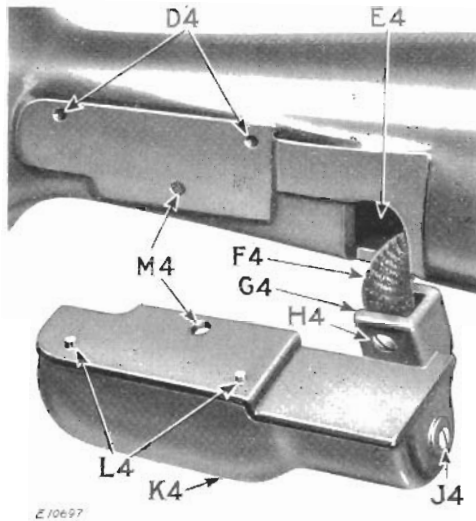
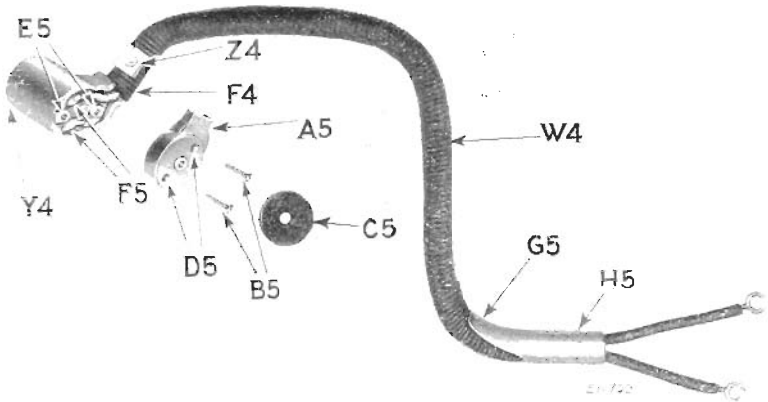
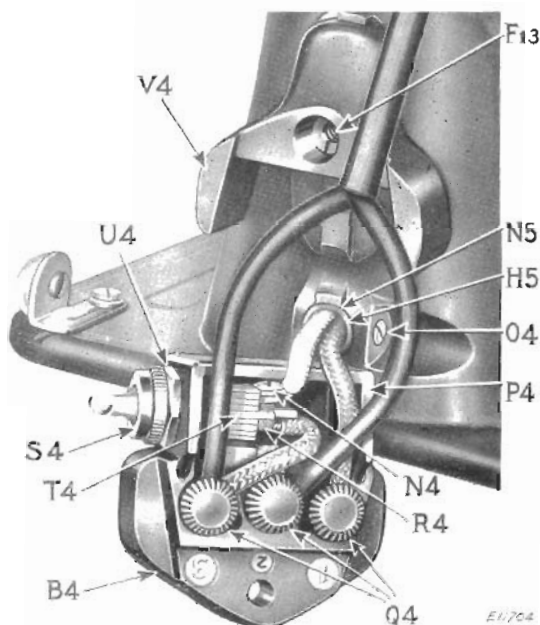
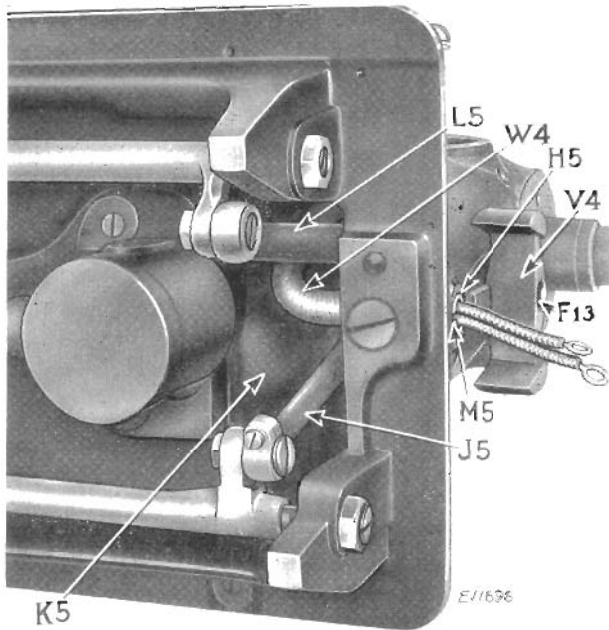

FIG. 8. SINGERLIGHT REMOVED FROM MACHINE 201-2
FIG. 9. SINGERLIGHT DISASSEMBLED—LEADS
FIG. 10. THREE-PIN TERMINAL DISPLACED FROM MACHINE ARM
FIG. 12. SHOWING POSITION OF THE SINGERLIGHT LEADS
machine arm. While the the removal of the three-pin terminal bracket (V4) is not essential, it is recommended when inspecting the connections at the three-pin terminal. This bracket is removed by taking out the screw at (F13, Fig. 10).
Inspect the connections at the three thumb nuts (Q4, Fig. 10). See that they are screwed
down firmly to insure tight connections. Each of the three pins is provided with a washer. See that this washer is, in each case, placed above the wire or wires before tightening the thumb nuts (Q4, Fig. 10).
leads from the machine arm. It is necessary, however, to remove the complete Singerlight from the machine as shown in Fig. 8, by removing the screw at (M4, Fig. 8), after which the Singerlight can be disassembled as follows:
**Remove Singerlight Shade—Machine 201-2.** With the Singerlight removed as shown in Fig. 8, remove the screw (J4) which fastens the Singerlight socket (Y4, Fig. 9) in the base of the Singerlight shade (K4), and loosen the screw (H4) which retains the leads tube at its upper end (F4) in the entrance (G4) of the Singerlight shade. The Singerlight shade (K4) is then easily slipped from the upper end of the leads tube and the lamp socket by withdrawing the shade to the right.
**Inspect Singerlight Connections—Machine 201-2.** With the Singerlight shade removed as instructed on the preceding page, take out the two screws (B5, Fig. 9) which fasten the Singerlight socket cap (A5) to the socket body. Carefully inspect the two soldered connections (F5) to make sure that they are tight.
cap and into the holes (E5) in the lamp socket body. Put the felt washer (C5) on the cap (A5) and put the assembled lamp socket in place in the Singerlight shade base with the upper end (F4) of the leads tube in the entrance (G4, Fig. 8) of the shade, and with the fibre clamping plate (Z4) in place against the upper end (F4) of the leads tube where the set screw (H4, Fig. 8) will be tightened against it. Insert and tighten the screw (J4, Fig. 8), thus fastening the lamp socket (Y4) into the base of the shade (K4, Fig. 8) and carefully tighten the set screw (H4, Fig. 8) against the fibre clamping plate (Z4).
**Replace Singerlight—Machine 201-2.** Attach the completely assembled Singerlight to the machine arm, having the two pins (L4, Fig. 8) in the holes (D4, Fig. 8). Tighten the screw at (M4, Fig. 8).
Disconnect the yellow Singerlight lead from Pin No. 1 of the three-pin terminal, and disconnect, at Pin No. 3, the red lead which is soldered to the Singerlight switch (T4, Fig. 10).
Loosen set screw (O4, Fig. 10) to release the clamp (H5, Figs. 9 and 10) which holds the three-pin terminal end of the leads tube (W4, Fig. 11) containing the Singerlight leads.
The position of the tube (W4) can be observed conveniently through the opening (X4) uncovered by the removal of the stitch indicator plate. This plate is removed by taking out the two screws by which it is fastened to the machine arm. The lower end of the tube (W4) can be observed through the opening (K5, Fig. 12) in the bed of the machine.
Withdraw the tube (W4) from the machine arm through the opening (E4, Fig. 8), together with the clamp (H5, Figs. 9 and 10), or remove the clamp (H5) separately from the tube through the opening (K5, Fig. 12) in the machine bed.
With the Singerlight completely disassembled, as shown in Fig. 9, insert the tube (W4, Figs. 9 and 12) with the clamp (H5, Figs. 9 and 12) in place thereon, into the Singerlight seat opening
(E4, Fig. 8) in the machine arm, and move the tube (W4) containing the Singerlight leads back toward the balance wheel, at the same time keeping the tube (W4) at the front side (toward the operator) of the horizontal arm shaft in the machine arm; then, reaching through the opening (X4, Fig. 11), guide the tube (W4) downward while keeping this tube at the front side (toward the operator) of the upright arm shaft as shown in Fig. 11. While guiding the tube (W4) downward toward the leads opening at the three-pin terminal seat, keep this tube to the left of the feed connecting rod (L5, Fig. 12). From this point downward, the tube (W4) is guided by reaching through the opening (K5) in the machine bed. Guide the tube (W4) downward and to the
left of the connecting rod (L5) and then to the right and between the connecting rod (L5) and the feed forked connection (J5, Fig. 12); then insert the clamp (H5, Figs. 9 and 12) in its opening (N5, Fig. 10) just below the three-pin terminal bracket (V4, Fig. 12) and with its outer end about flush with the outside surface of the machine arm, and with the split (M5, Fig. 12) down to bring the curved side (G5, Fig. 9) up toward the top of the machine so that the curve (G5) will conform to the upward bend of the tube (W4, Figs. 9 and 12). Also make sure that the tube (W4) is positioned so that it will not obstruct any of the moving parts such as the connecting rod (L5, Fig. 12) and the feed forked connection (J5, Fig. 12), etc.
When the leads tube (W4) is correctly positioned in the machine arm, and the clamp (H5) is properly inserted in its opening, as shown in Fig. 12, securely tighten the clampset screw (O4, Fig. 10).
Attach the Singerlight white lead to the screw connection (N4, Fig. 10) of the Singerlight switch (T4, Fig. 10) and place the switch (T4) in the switch housing (P4, Fig. 10) of the three-pin terminal, then push the screw nipple (into which the switch handle is fastened) through the opening for this purpose in the side of the switch housing. The screw nipple is not shown in these illustrations, as it is concealed by the thumb nut (S4, Fig. 10) and hexagon lock nut (U4, Fig. 10).
Be sure to put the switch (T4, Fig. 10) in the housing (P4, Fig. 10) with the screw connection (N4, Fig. 10) on the side of the housing (P4) farthest from the three thumb nuts (Q4) as shown in Fig. 10. Place on the screw nipple, now protruding through the side of the switch housing (P4), the hexagon lock nut (U4) and tighten it, and then put the thumb nut (S4) in place on the screw nipple and tighten this thumb nut.
Fasten the short red lead (which is soldered to the switch at (R4) as shown in Fig. 10) to pin No. 3 of the three-pin terminal (B4, Fig. 10) and fasten the yellow Singerlight lead to Pin No. 1 of the three-pin terminal.